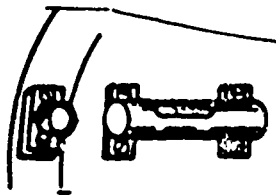

Figure 9. Adjuster and Level.
- i. Turn the disc adjuster until the spirit level on the disc is level. See figure 9.